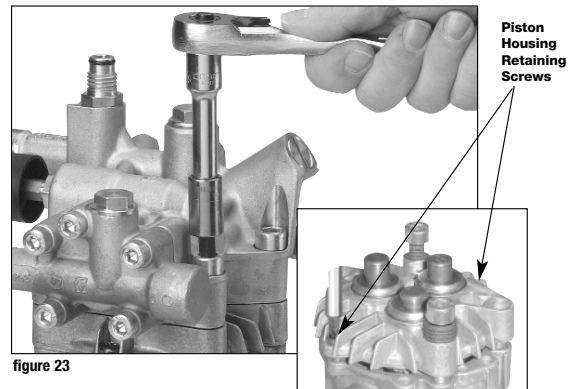

figure 23
2. Remove piston housing. (figure 23)
- Re-install two of the pump head bolts with a 1/2" shim composed of washers or a metal sleeve about 3/8" in diameter into two diagonally opposing weep holes of piston guide housing. (figure 23)
- Back off the housing by loosening up on the two pump head bolts until spring tension in the piston guide housing is relieved. (inset figure 23)